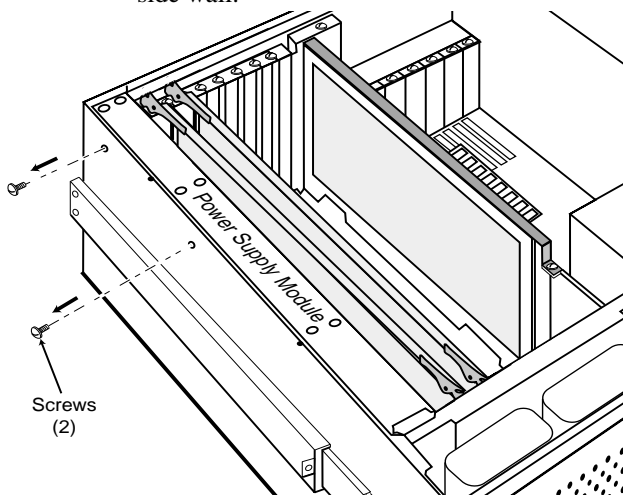

Figure 4-7. Removing Power Supply Screws
- [] 2. Refer to Figure 4-7. Remove the two screws securing the Power Supply Module to the chassis side wall.